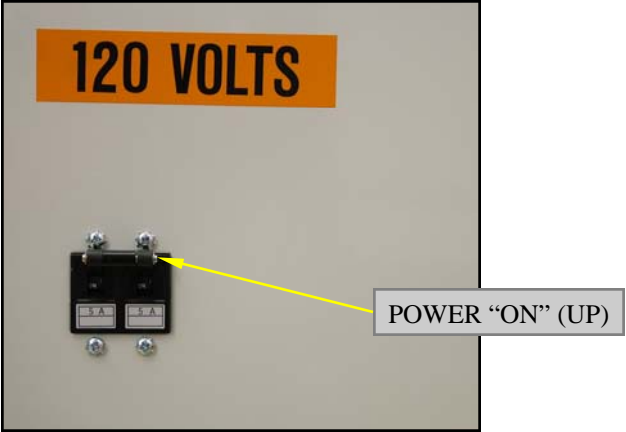

Figure 11
10. Power the Q2K Plus by switching the control switch to the “on” position. (Up) (Figure 11)
4. Retry by turning the power switch “on” (up). (Figure 11)